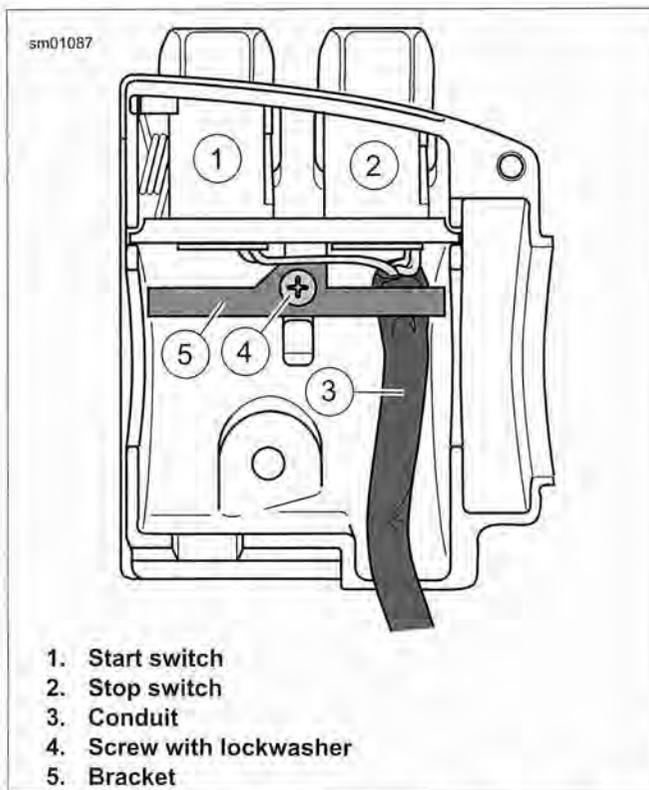
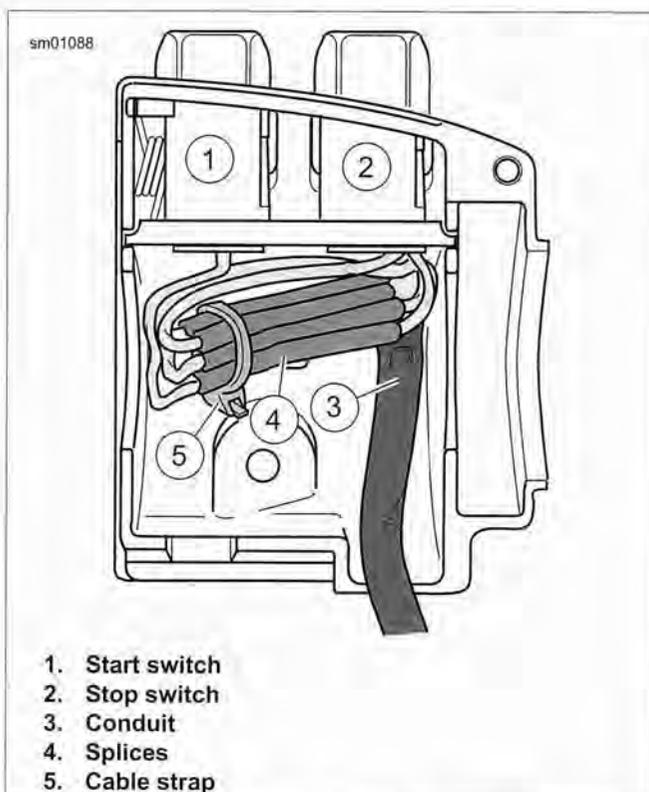

Figure 6-140. Upper Housing Without Splices
Figure 6-141. Upper Housing With Splices
1. See Figure 6-140. From inside the switch housing, remove the screw with lockwasher (4) to release the bracket (5). Remove the bracket and switch assembly from the housing.
2. Move cable conduit (3) from beneath wing of bracket. Cut wires 0.25 in (6.4 mm) from old switches (1, 2). Discard old switch and bracket assembly.
3. Slide conduit forward over cut ends of switch wires and cut off 0.5 in (12.7 mm) of conduit (3) material. Push conduit back to access switch wires.
4. See Figure 6-141. Separate **new** engine stop switch (2) and engine start switch (1) wires into two bundles.
6. See Figure 6-141. Loop switch wires and bundle splices.
7. See Figure 6-140. Route wires downstream of splices beneath wing on engine stop switch side of bracket.
8. See Figure 6-141. Install a **new** 7.0 in (177.8 mm) cable strap (5) beneath wing on engine start switch side (1) of bracket and capture wire splices (4).
10. See Figure 6-140. Install screw and lockwasher (4) to secure bracket (5) inside housing. Verify that wing on engine stop switch (2) side of bracket captures edge of conduit (3) as shown.